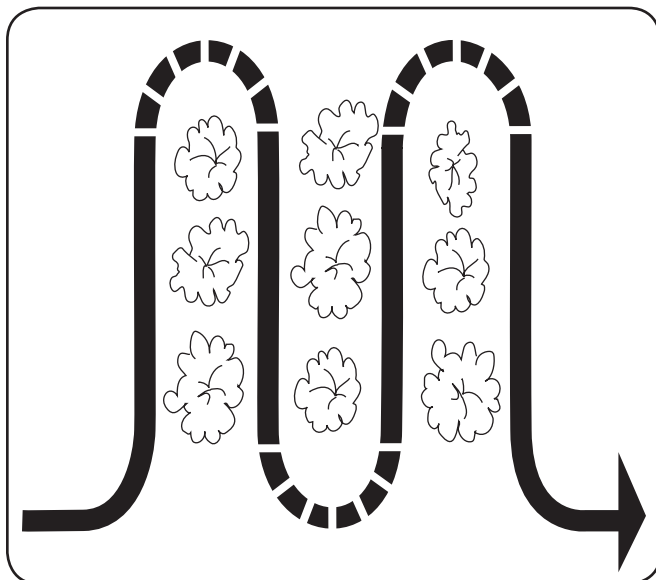

Figure 5-4
- When cultivating (breaking up surface soil around plants to destroy weeds, see Fig. 5-4), Adjust the tines to dig only 1” to 2” deep. Using shallow tilling depths helps prevent injury to the plants whose roots often grow close to the surface. If needed, lift up on the handlebars slightly to prevent the tines from digging too deeply. (Cultivating on a regular basis not only eliminates weeds, it also loosens and aerates the soil for better moisture absorption and faster plant growth.) Watering the garden area a few days prior to tilling will make tilling easier, as will letting the newly worked soil set for a day or two before making a final, deep tilling pass.